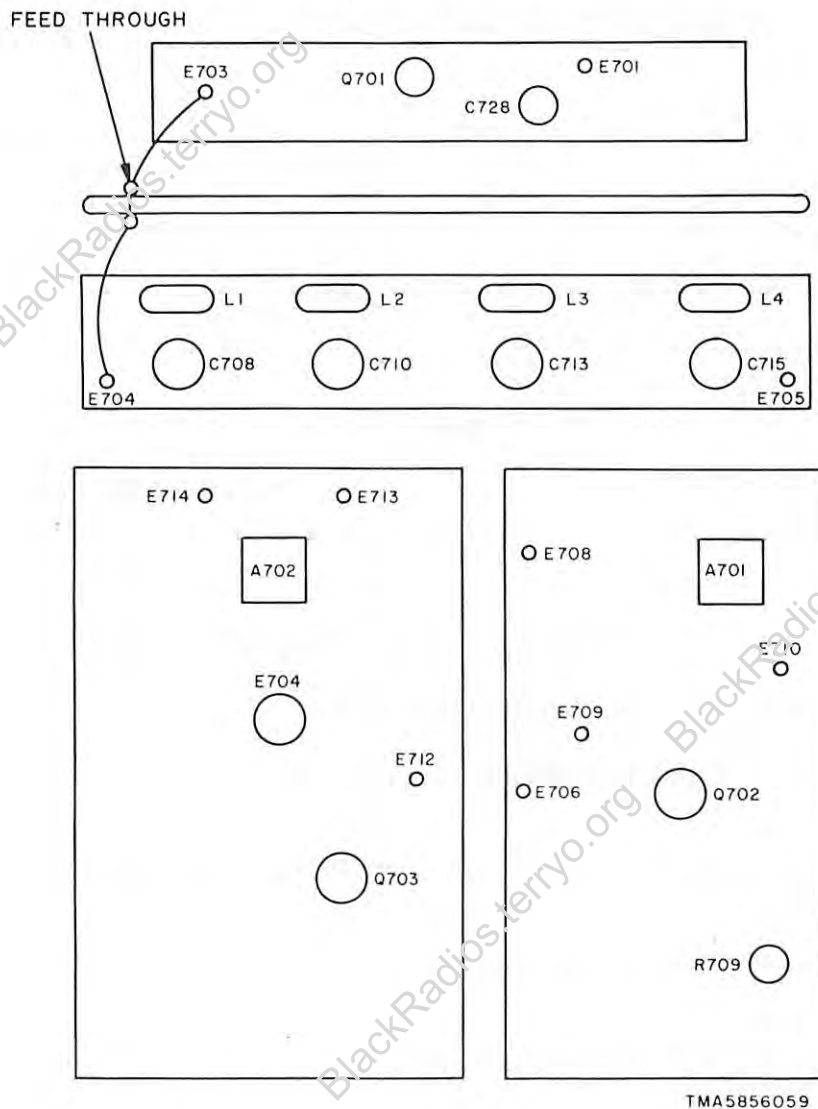

FIGURE 7-7 37.5 MHz GENERATOR ALIGNMENT PARTS LOCATION
d. 37.5-MHz GENERATOR Module (fig. 7-7).
- (1) Connect the RF voltmeter to E701, and check to see that approximately 1.4 volts is indicated at 1.0 MHz.
- (2) Disconnect the lead at the feedthrough end of the lead that connects from E704 to the feedthrough.
- (3) Connect a 390-ohm resistor from the output of the signal generator to the feedthrough.
- (4) Connect the RF voltmeter to E705.
- (5) Adjust the signal generator for a frequency of 1 MHz with an output of 250 millivolts at 1-MHz.
(6) Tune the signal generator through the 2 to 32 MHz band, and observe the indication on the RF voltmeter. Adjust C708, C710, C713, and C715 to obtain a reading with a 2-dB indication of 100 millivolts across the band. Continually check to see that the signal generator output is 250 millivolt across the band.
(7) Connect the signal generator to E709, and connect the RF voltmeter to E710.
(8) Adjust the signal generator for a frequency of 37.5 MHz with an output of 3 millivolts.
(9) Adjust A701 for an indication of at least 30 millivolts on the RF voltmeter.
(10) Connect the RF voltmeter to E713, and adjust A702 for an indication of approximately 100 millivolts on the RF voltmeter.
7-6. 37.5 MHz FILTER Alignment (fig. 7-7)